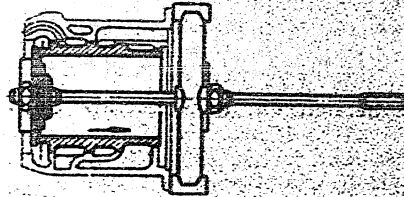

Fig. 26
2. Fit a rubber packing ring ($\Delta_0=212$ mm) and $\varnothing 260 \times \varnothing 263 \times \varnothing 1.5$ copper washer on the liner. Press the liner in the 1st stage casing by means of a special tool (see Fig. 26) making sure that the holes for the lubricating pipe connection in the casing register with those in the liner.